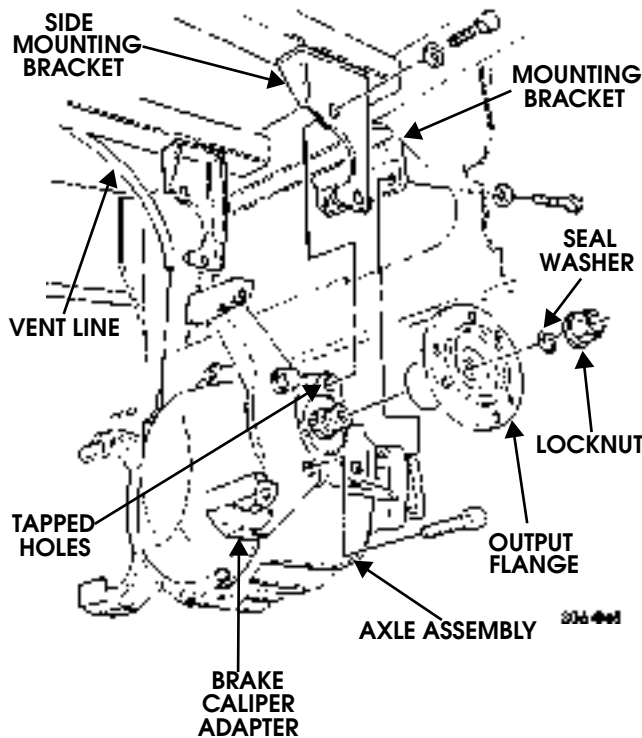

Figure 9-59: Rear Axle Assembly Installation
3. Apply thread-locking compound to axle assembly tapped holes. Secure two brake caliper adapters to axle assembly with four bolts. Tighten bolts to 110-140 lb-ft (149-190 N•m) (Figure 9-59).